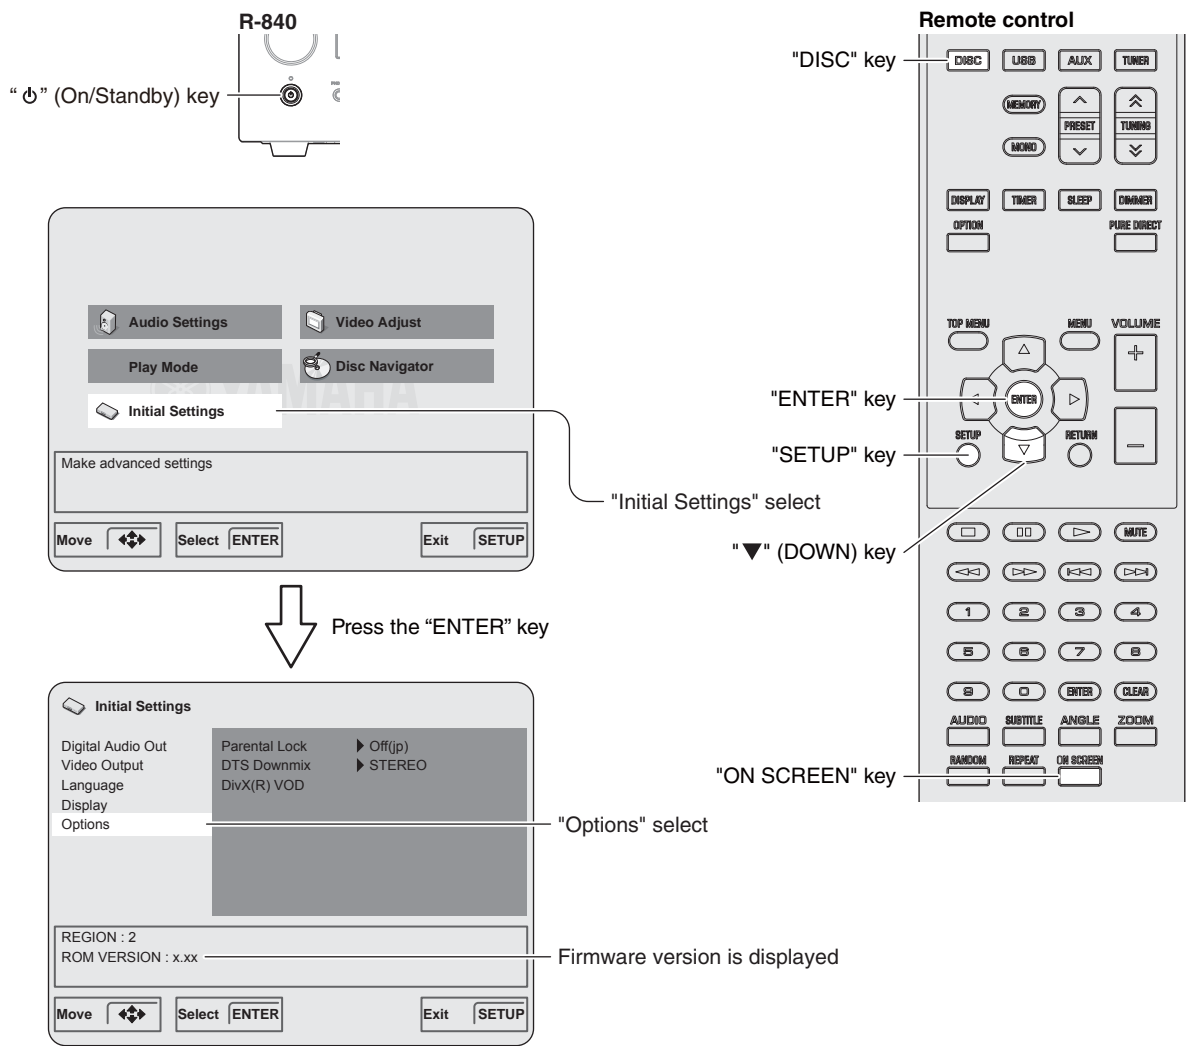

Fig. 2
The SETUP menu is displayed on the TV monitor screen. (Fig. 2)
4. Move the cursor to [Initial Settings] by pressing the “▼” (DOWN) key on the remote control and press the “ENTER” key. (Fig. 2)
5. Move the cursor to [Options] by pressing the “▼” (DOWN) key on the remote control and press the “ON SCREEN” key. (Fig. 2)
The firmware version is displayed. (Fig. 2)